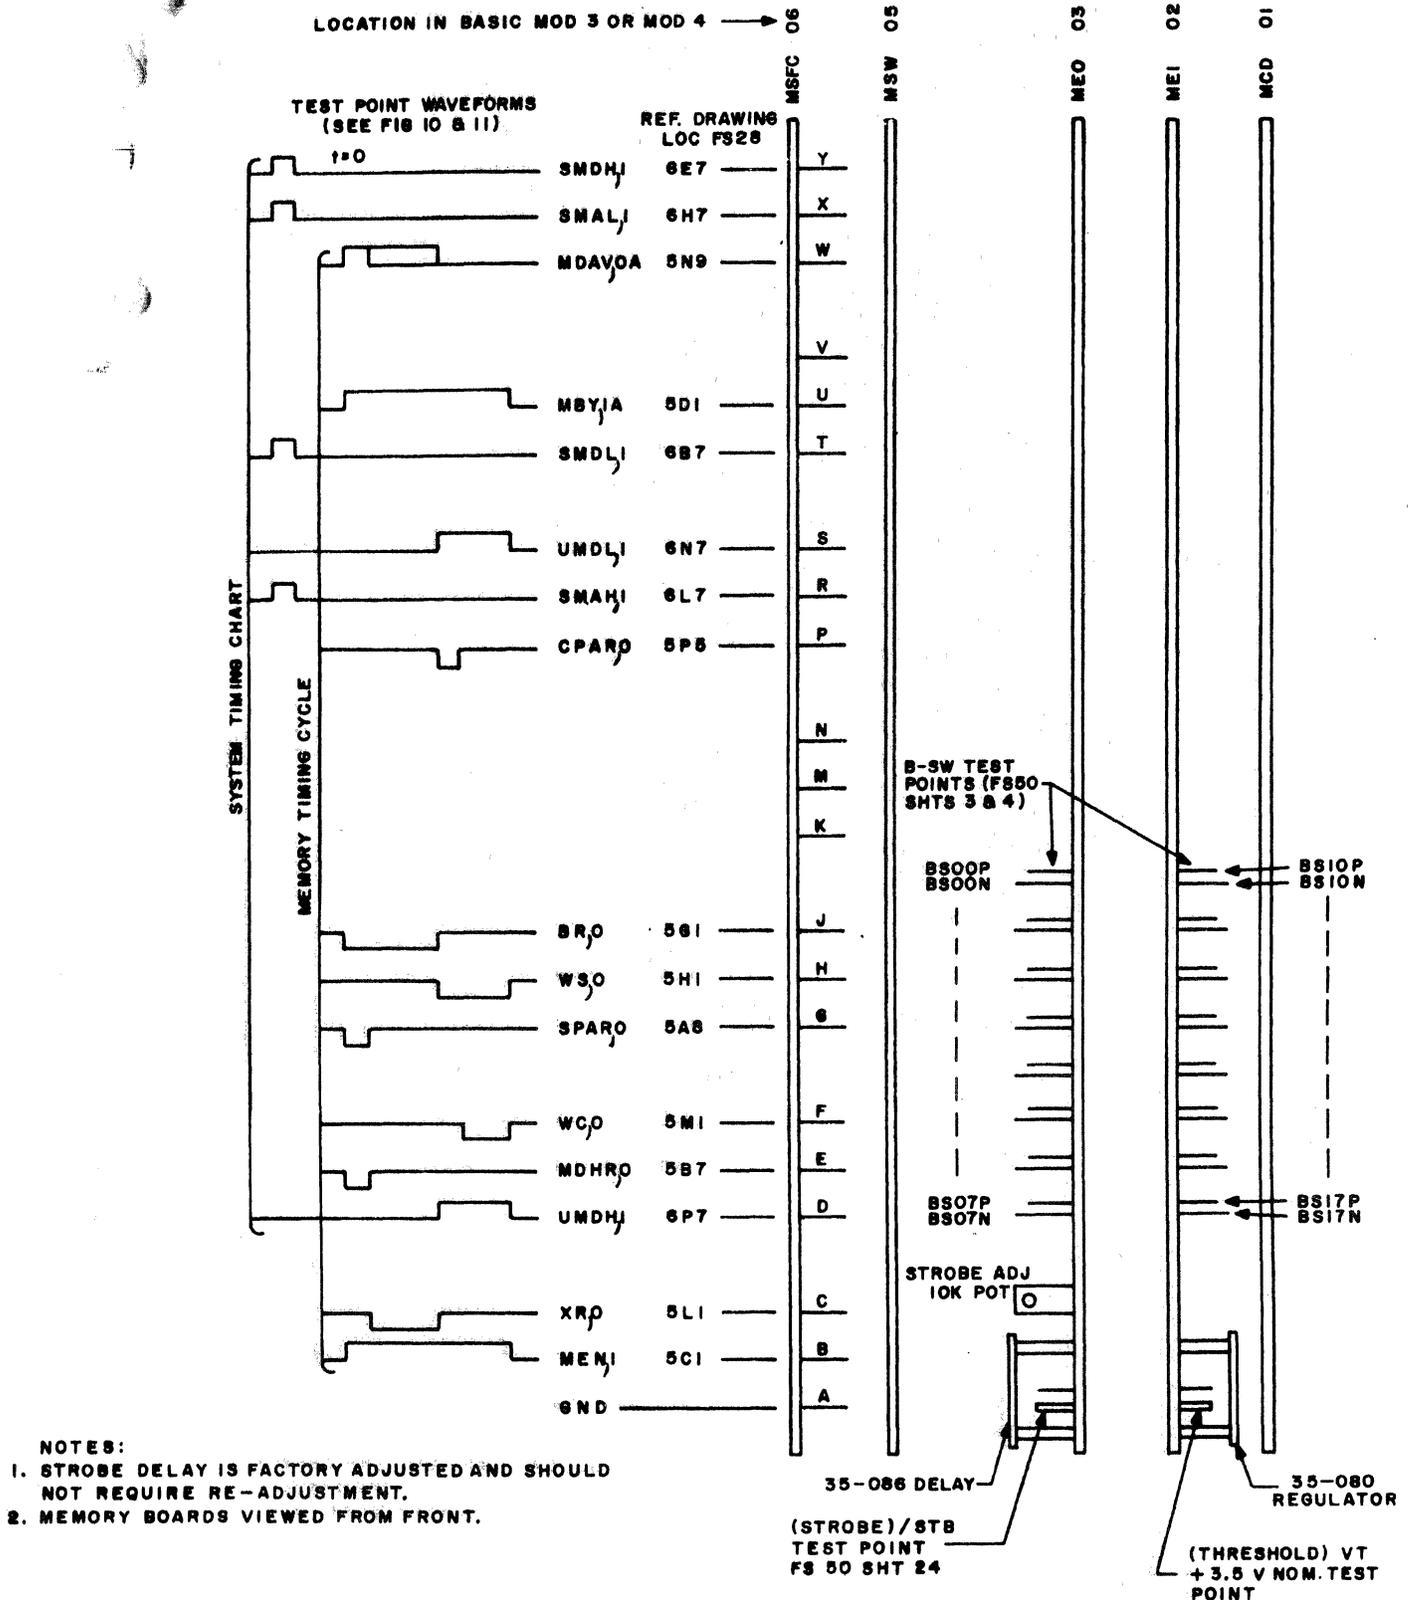

Figure 15. Memory Timing Data
2. Synchronize the oscilloscope on the negative-going edge of XR0, MSF Test Point L12. See Figure 15.
4. On the second trace, observe the Strobe output, on the bottom ME0 test point (Figure 15). The relationship should be as shown on Figure 16.
5. If the relationship is not as shown on Figure 16, and all components are found to be operating correctly, adjust the trimpot shown on Figure 15.
2. Connect the voltmeter to back-panel pin 211-1 on ME0 or ME1, or the bottom test point on ME1 (Figure 15). Set the MARGINAL TEST - NORMAL Switch to MARGINAL TEST. The voltmeter now indicates the test threshold voltage (VT) applied.